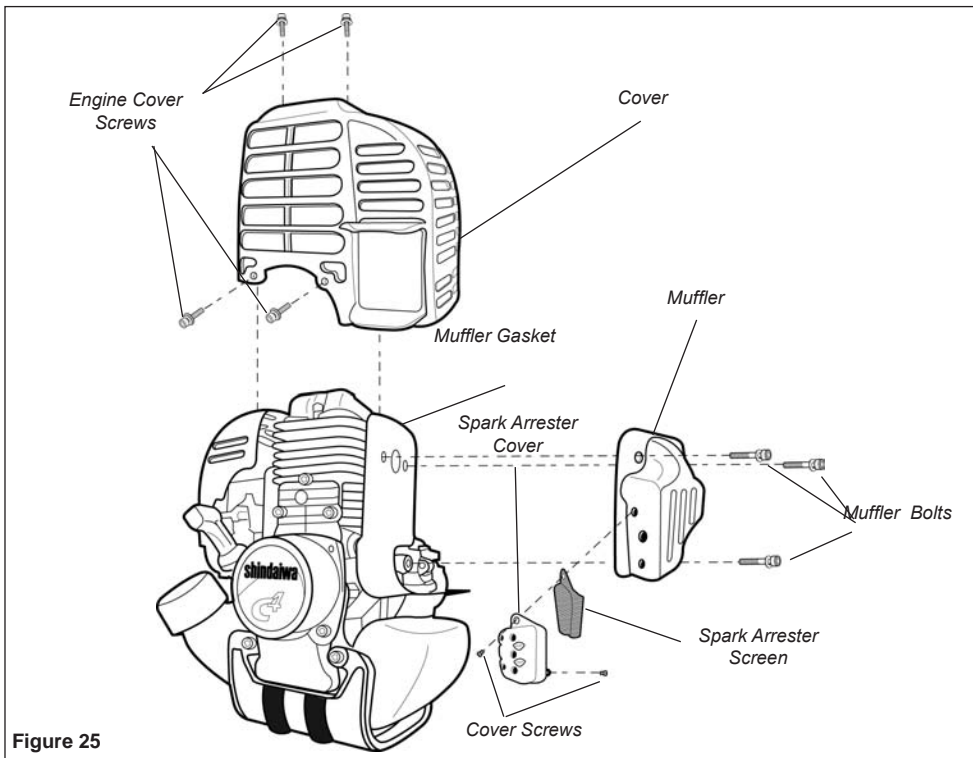

Figure 25
1. With a 3 mm hex wrench remove the 4 engine cover screws and the engine cover. See Figure 25.
2. With a small flat bladed screwdriver remove the 2 screws holding the spark arrester screen and cover to the muffler. See Figure 25.
4. With a 4 mm hex wrench remove the 3 muffler bolts and the muffler. See Figure 25.